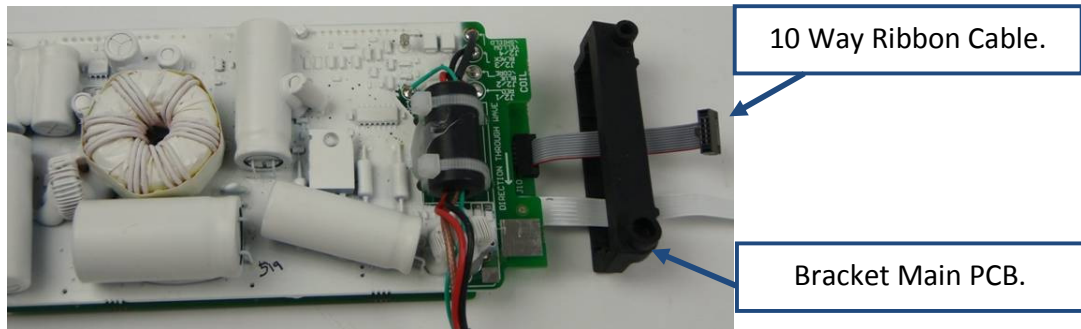

Figure 38: Fitting Bracket
- Connect the 10 way ribbon cable, ensuring that the key on the connector is aligned with the slot on the PCB. Figure 38.